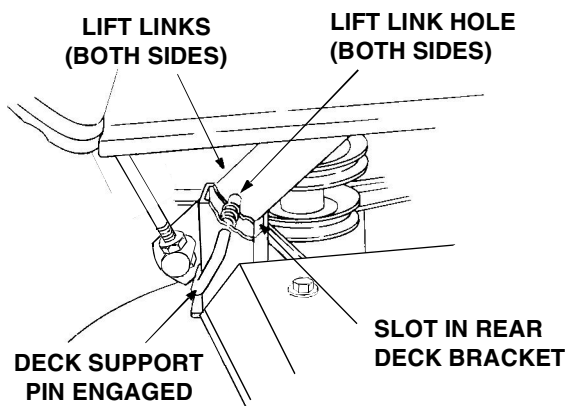

Figure 2-8
9. Carefully guide the tractor implement lift links (left and right) into the rear deck bracket slots (left and right) as the tractor implement lift handle is lowered to its lowest setting (Refer to Figure 2-8).
10. Pull both deck support pins outward and rotate rearward to disengage the outer surface of the rear deck brackets. Release the pins, making certain each deck support pin passes through the inner hole of the rear deck bracket. The spring tension will push the pins inward and, if aligned, through the hole in each implement lift link (Refer to Figure 2-8).